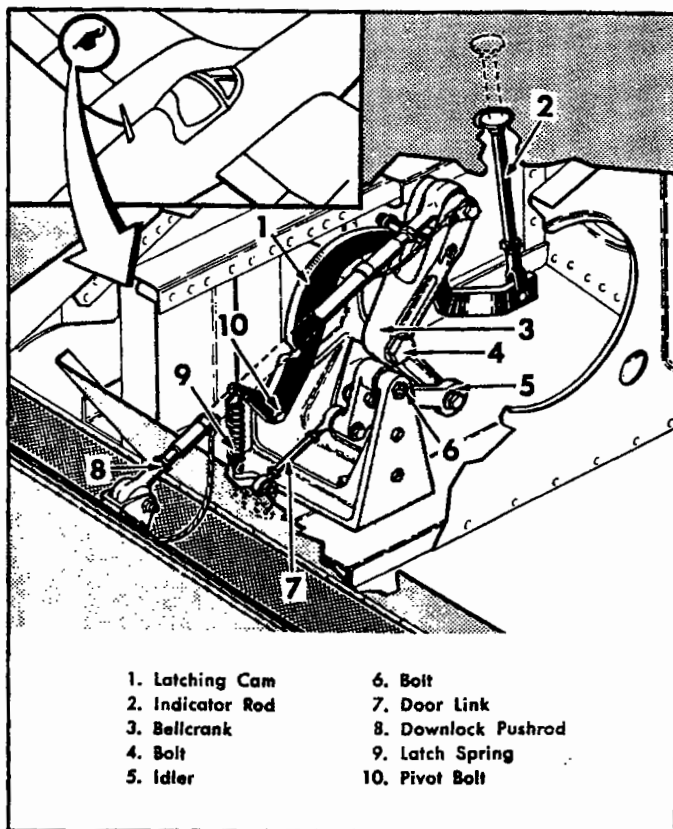

Figure 4-10. Flap Downlock Mechanism.
c. Disconnect the pushrod (reference (8) on figure 4-10), to the flap downlock mechanism located at the outboard end of the flap.
4-44. **DESCRIPTION.** (See figure 4-10.) The outer panel flap downlock acts to lock the outer panel flap in the down position after the flap has been released by the disconnect mechanism. A pushrod attached to the flap near its outboard end runs forward to a cam and indicator assembly within the outer panel. When the flap has been dropped to a vertical position, the latching cam (1) locks the flap in that position, and the indicator rod (2) is forced upward so that it protrudes about 2-1/2 inches above the wing contour. To release the flap, the indicator must be pushed down.
4-45. **REMOVING.** (See figure 4-10.)